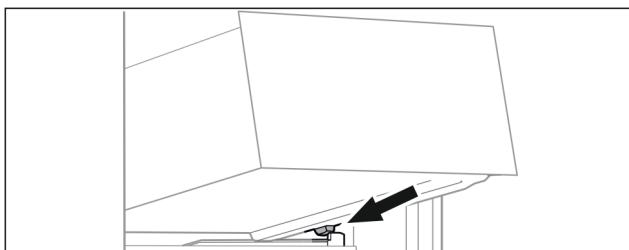

Fig. 80
- ▶ Place drawer at an angle behind the stoppers on the moulded rib. (see Fig. 80)